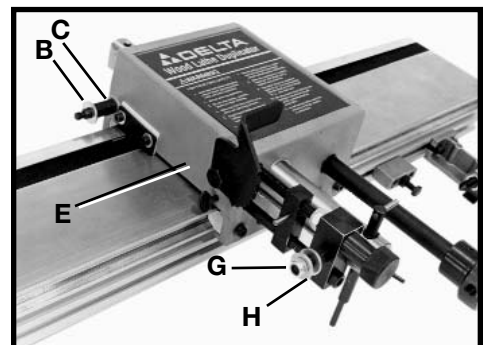

Fig. 39
2. Thread stud (C) with a flat washer (B) Fig. 39 (removed in **STEP 1**) to left side of carriage assembly (E).
3. Loosen and remove hex nut (G) Fig. 39, and one flat washer (H) from stud of carriage assembly (E).